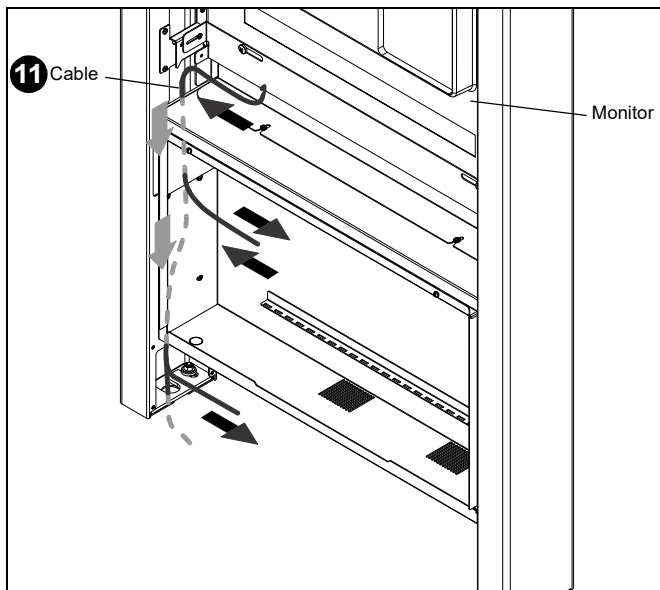

Figure 10
11. Route cables through sides of kiosk frame. Cables can be routed from the monitor to the enclosed storage area and/or out the bottom near the mounting locations. (See Figure 10)